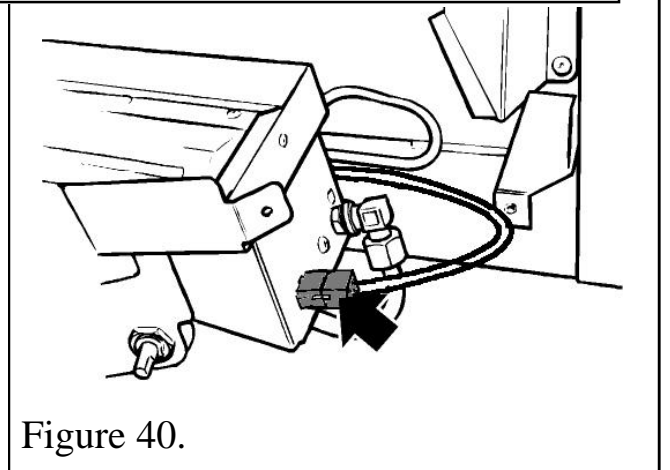

Figure 40.
- Detach the burner wiring loom connection at the right side of the burner (See figure 40).